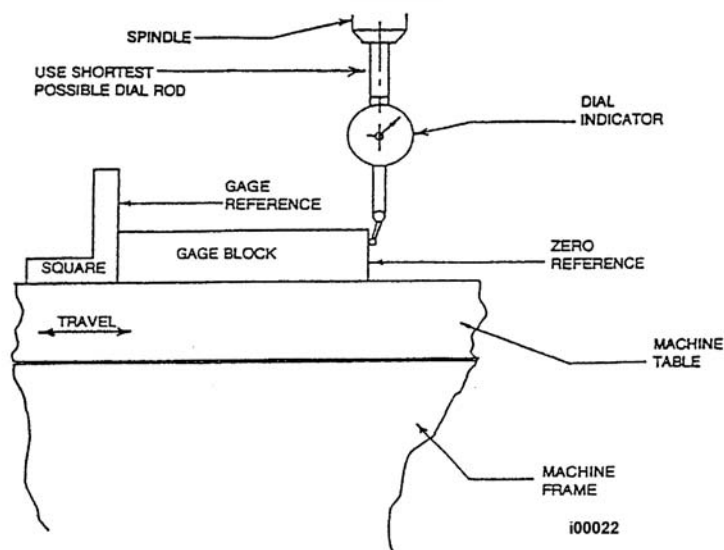

Figure 5-44 Calibration Set-Up
Calibration is used to teach the machine a known distance. We typically calibrate our machines over a 150 mm distance. There is no limit to how far you can calibrate the machine. Refer to Figure 5-44.
1. Create a set up similar to that shown in Figure 5-44, except orient the gage block and reference to measure vertical ram motion.